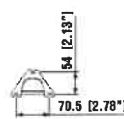

Fig. 1
2. Drill mounting holes for fixture as shown in **Fig. 1**.